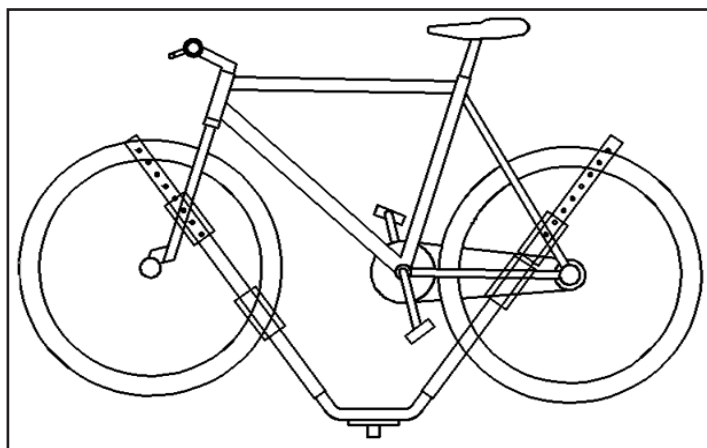

Fig.3
4. Use the SwayStop™ pin to secure one wheel below the frame where the wheel crosses the wing using the same technique with the rubber strap (Fig. 3).